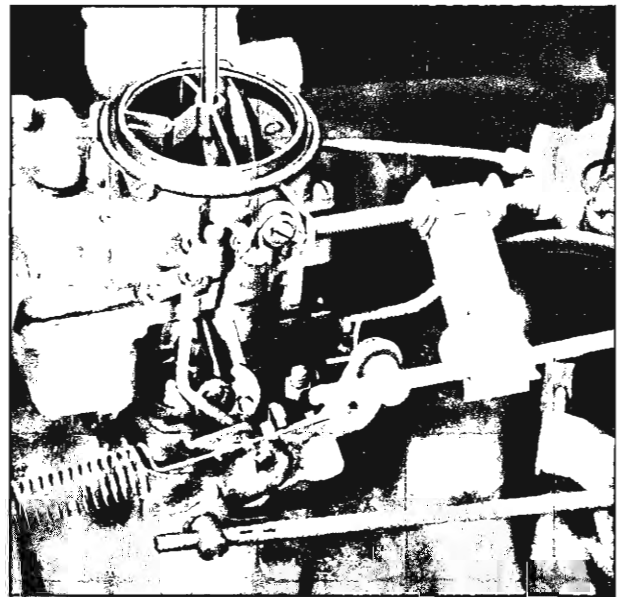

Fig. 2—Locking Throttle and Choke in Wide-Open Position
- a. Remove air cleaner and block throttle and choke in wide open position (fig. 2). A tool such as the one illustrated will facilitate this operation.